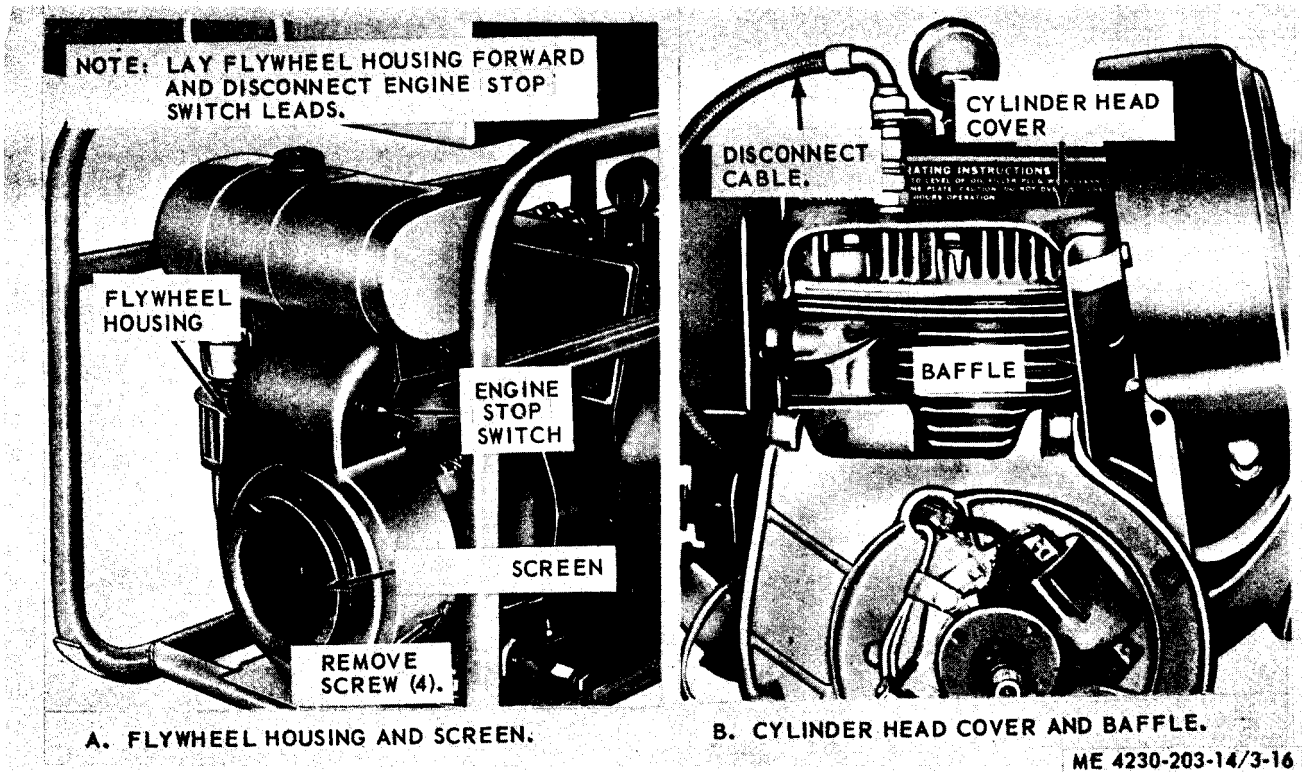

Figure 4-9. Flywheel housing, screen, and baffles, removal and installation.
(1) Remove the fuel tank and bracket (para 4-6).
(2) Refer to figure 4-9 and remove the flywheel housing, screen, and baffles.
(1) Refer to figure 4-9 and install the flywheel, screen, and baffles.
(2) Install the fuel tank and bracket (para 4-6).